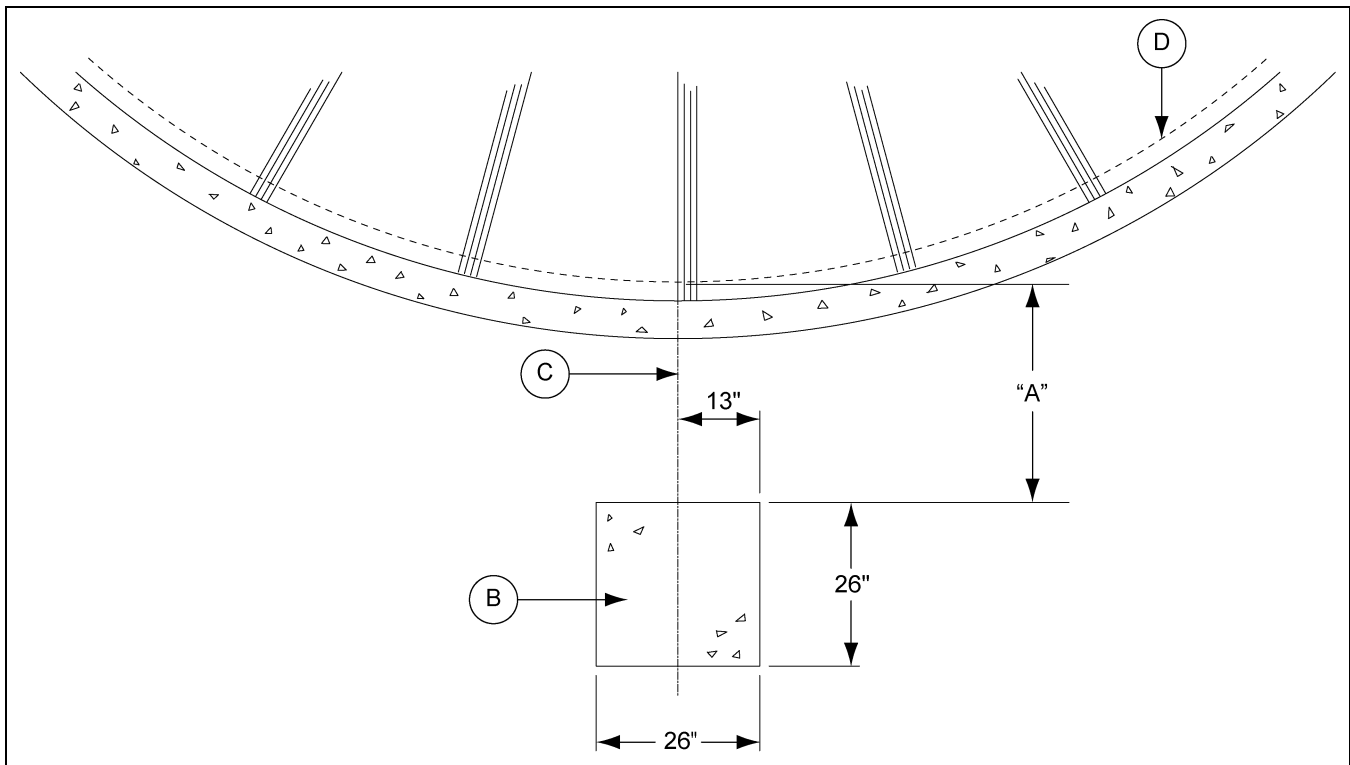

Figure 4F Vane Axial Fan Foundation
4. Concrete foundation for the heater is not required. If it is to be added, pour the concrete to cover the locations of both the heater and the fan. (See Figure 4F.)